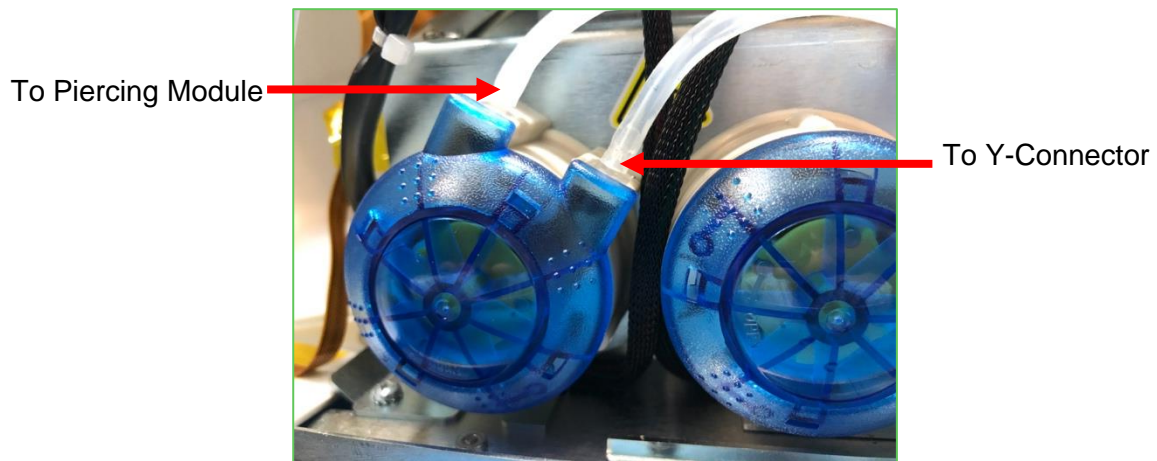

Figure 8
16. Make note of which end each of the silicone tubing was connected. (Figure 8)
17. Disconnect the silicone tubing from each Wash Pump barb connector. Be careful not to damage the tubing as these will be reused. (Figure 8)